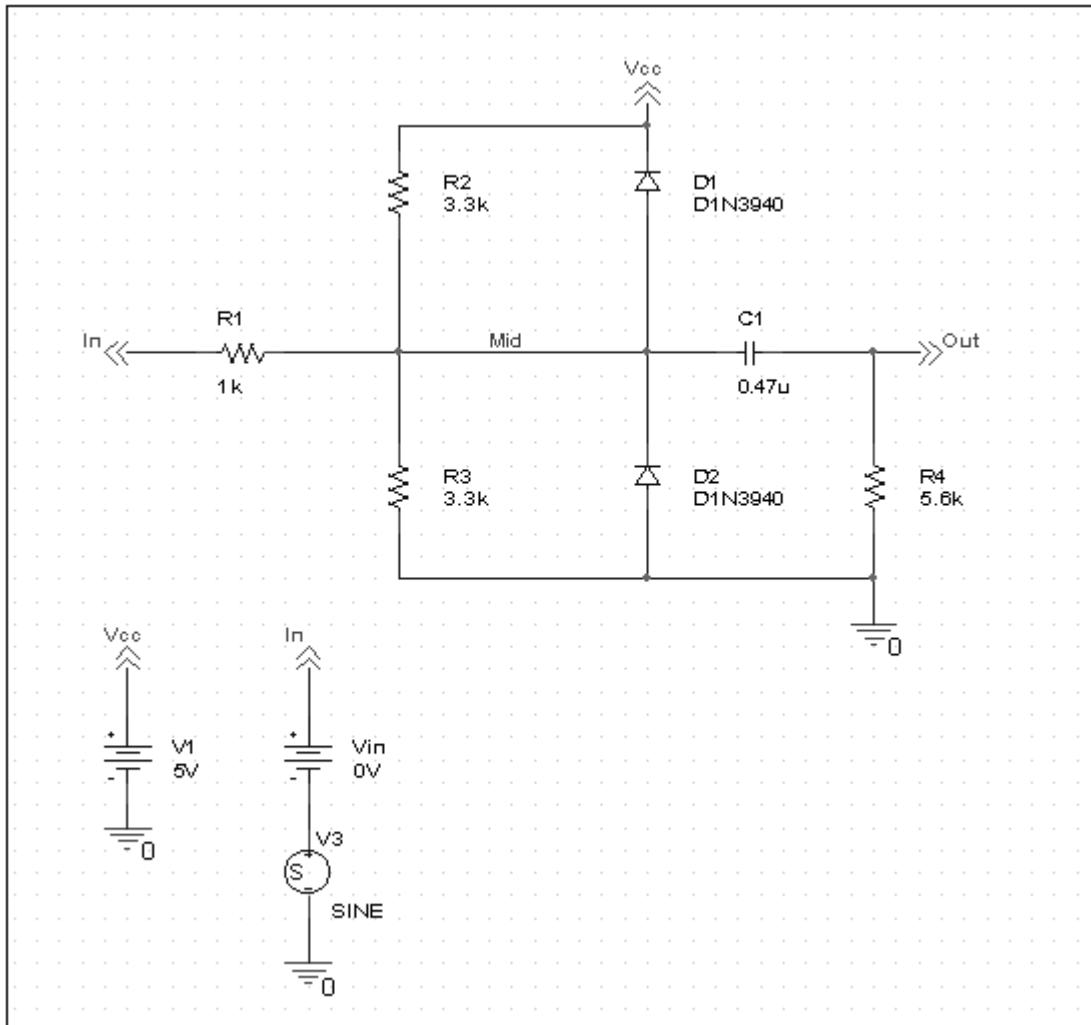

Figure 2-15 Diode clipper circuit with a voltage stimulus in .
The examples in this section show how to run a transient analysis on the clipper circuit. This requires adding a time-domain voltage stimulus as shown in Figure 2-15 and Figure 2-16.
5. Place a VSTIM part (from the PSpice library SOURCSTM) as shown in Figure 2-15.
7. Place the ground part under the VSTIM part as shown in Figure 2-15.
4. Place a VSTIM part (from the PSpice library SOURCSTM) as shown in Figure 2-15.